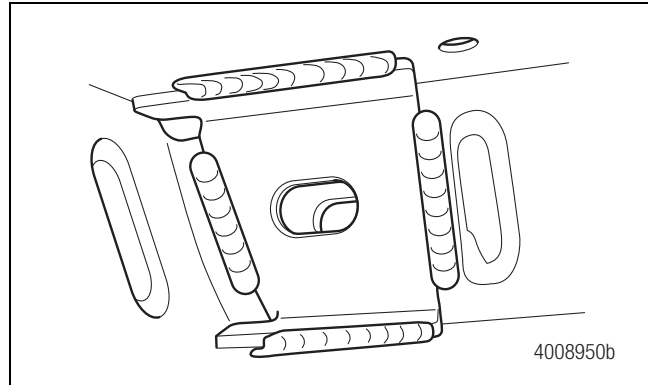

Figure 7
22. Weld the inside repair plate as shown. Make sure the welder ground is placed close to the area to be welded. Figure 7.